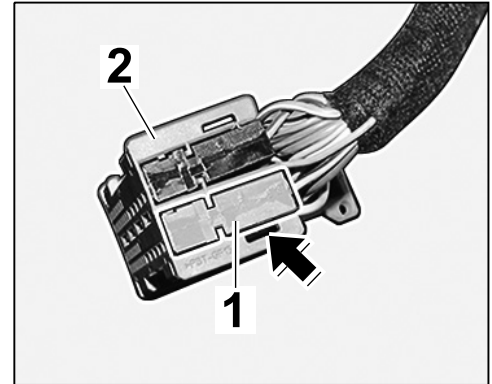

Figure 18
- 2.5.4 Press down the locking mechanism ⇒ *Figure 18 -arrow-* and push the grey plug socket ⇒ *Figure 18-1-* out of the plug carrier ⇒ *Figure 18-2-*.